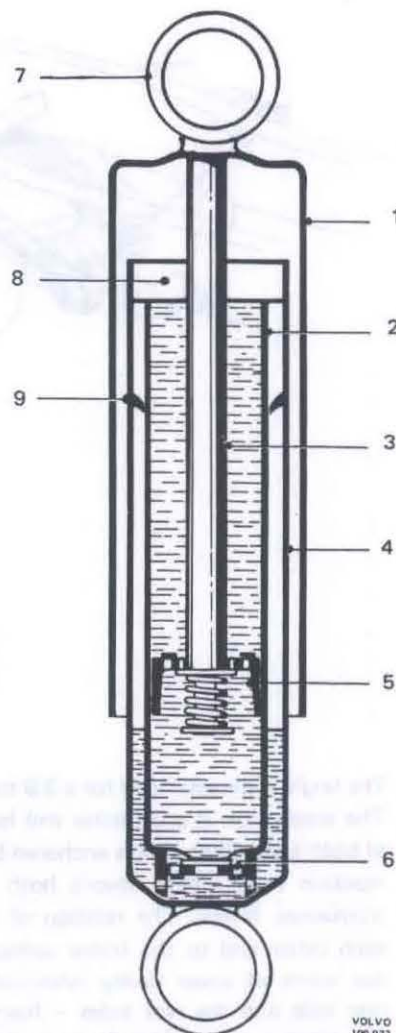

Fig. 76-1. Shock absorber
The design of the shock absorbers can be seen from Fig. 76-1. The outer cylinder (1) protects against dust and dirt. The other two cylinders (2) and (4) are arranged concentrically with the one entirely pushed into the other. The inner cylinder (2) is the real working cylinder and has a valve (6) at its lower end. A piston (5) with channels regulated by valves run inside the inner cylinder. This piston is attached to a piston rod (3) at the opposite end of which there is a ring (9) for attaching the shock absorber to the frame. At the other end of the shock absorber there is a similar ring fixed to a cylinder (4). The intermediate space between the cylinders (2) and (4) serves as a reservoir and is only partly filled with fluid. The inner cylinder (2) is entirely filled with fluid on both sides of the piston (5). The cover (8) provides the sealing and guide for the piston rod (3). The ring (7) acts as a baffle for the fluid.